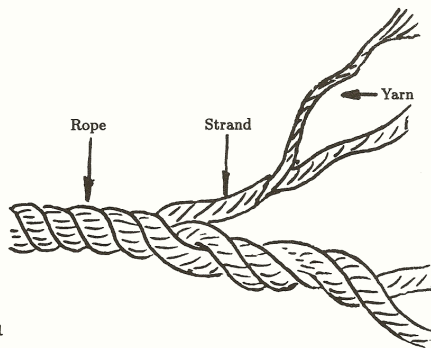

Fig. 1
- Yarn* - A number of fibres twisted together “right-handed”. (Fig.1)
- Strand* - Two or more yarns twisted together, generally “left-handed”. (Fig.1)
- Rope* - Three or more “left-handed strands twisted together “right-handed”. This is called a “plain laid rope”. (Fig.1)